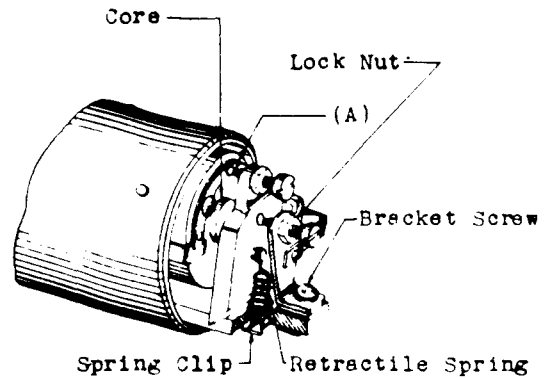

Fig. 5
- 2.11 Feather Contact Spring Position - Fig. 5 (A) - The feather contact spring shall rest against the turned over portion of the front contact spring when it is not engaged by the front contact screw. Gauge by eye.